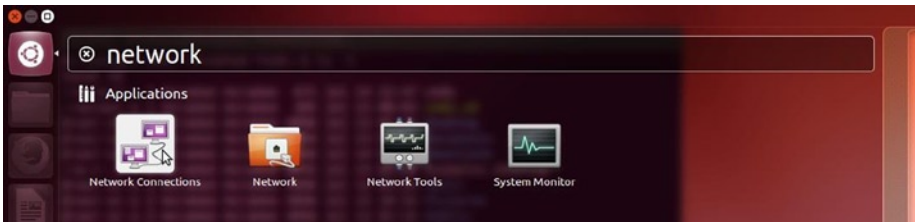

Figure 5-11. Network connections in Ubuntu Dash
- Start typing the word `network`. You will soon be able to see Network Connections, as shown in Figure 5-11. Click on it.